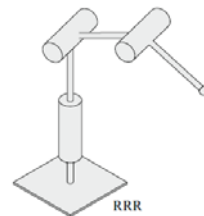

Figure 8.3 Anthropomorphic robot arm
- The anthropomorphic robot arm (Figure 8.3) has all **three joints of the rotational type (RRR)**.